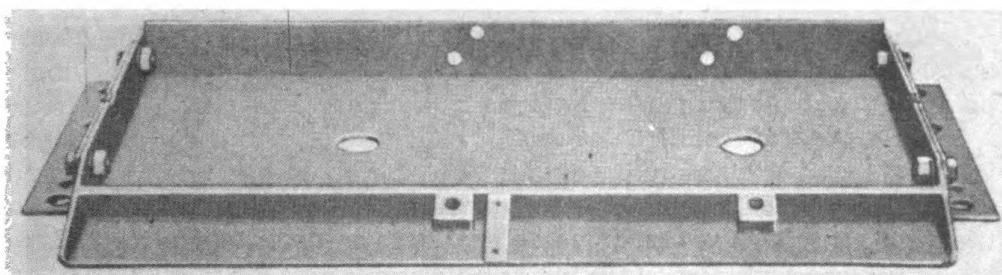

Fig. 14. Baseplate in position on mock-up sponson shelf.
- a. Baseplate (fig. 14). (1) On some models of medium tanks, lift